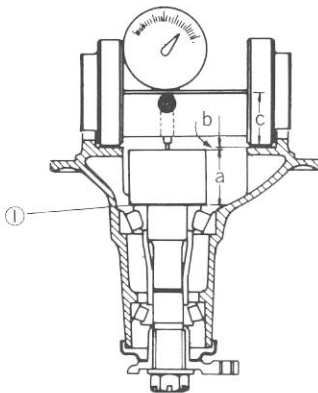

Fig. 16-21-3
- Referring to Fig. 16-21-3, note that three dimensions are involved: "a" "b" and "c". The value of "b" is unknown, and is to be determined now for calculating the required thickness of shims. The values of "a" and "c" are given: the sum, "a" + "c", is 85 mm, which is indicated on the dummy tool (09924-36320).
- The shim stock is available in four selective thicknesses. Select and combine shim sizes to produce a total thickness as close to the required thickness as possible, and insert the selected shim pieces into the clearance indicated as Fig. 16-21-3 – ①